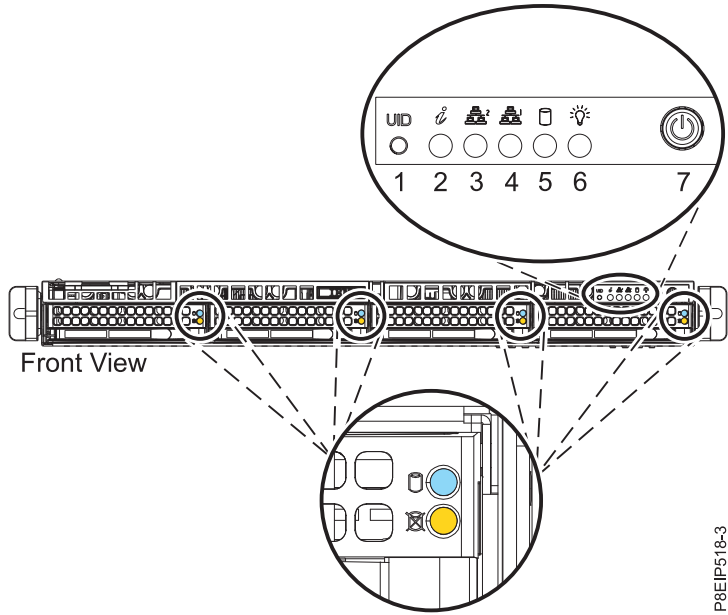
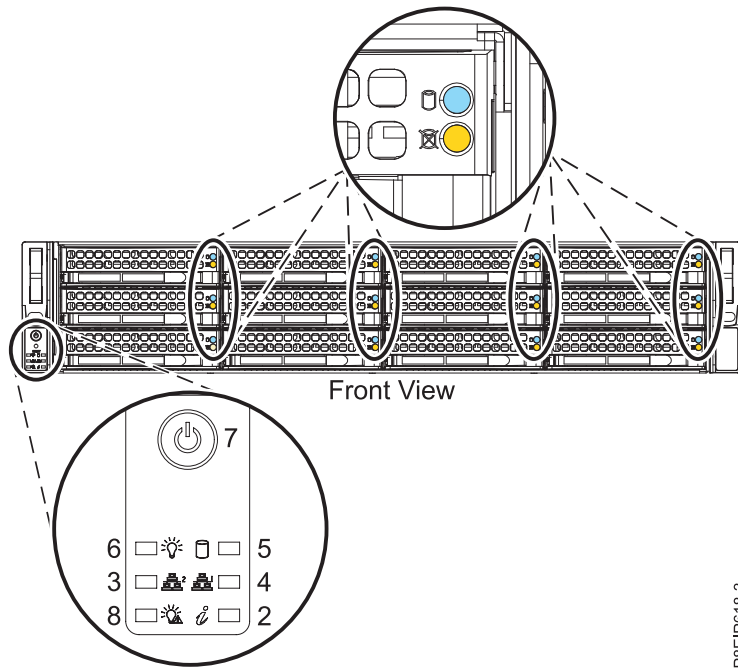

Figure 53. Power switch for 8001-12C
Figure 54. Power switch for 8001-22C
2. Press the power button (7) shown in Figure 53 on page 89 or Figure 54 on page 89. You may have to press the switch for 0.5 to 3 seconds.